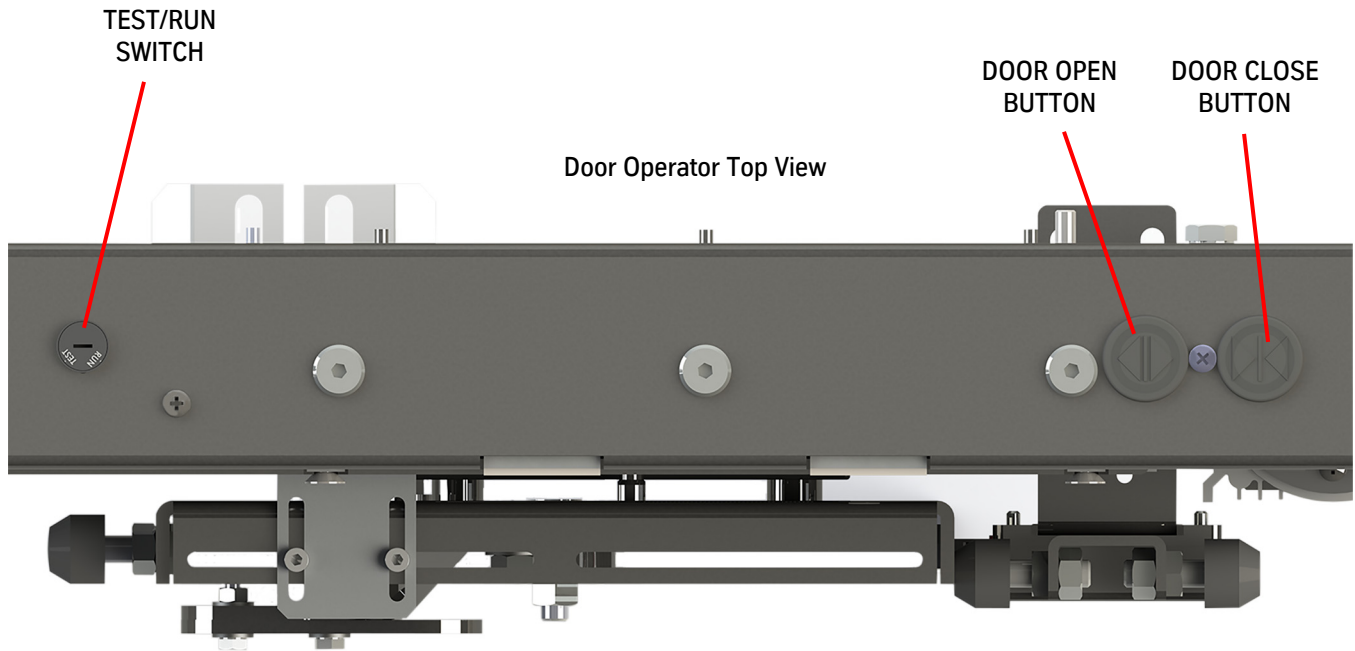

Figure 57 - LEDs and Test Buttons for Learn Door Travel
2. Power up the door operator, and verify the following LEDs. See Figure 57 on page 68.
4. Rotate the TEST/RUN switch to the TEST position. See Figure 57 on page 68.